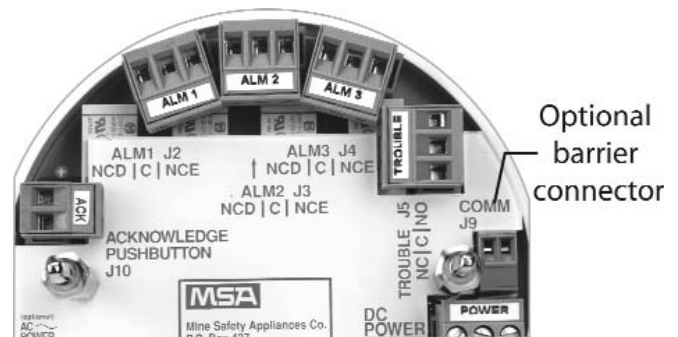

Figure 3
8. Wire for acknowledge push-button (J10) and/or optional relays (FIGURE 3).
9. Connect the optional HART barrier to J9 (FIGURE 3).